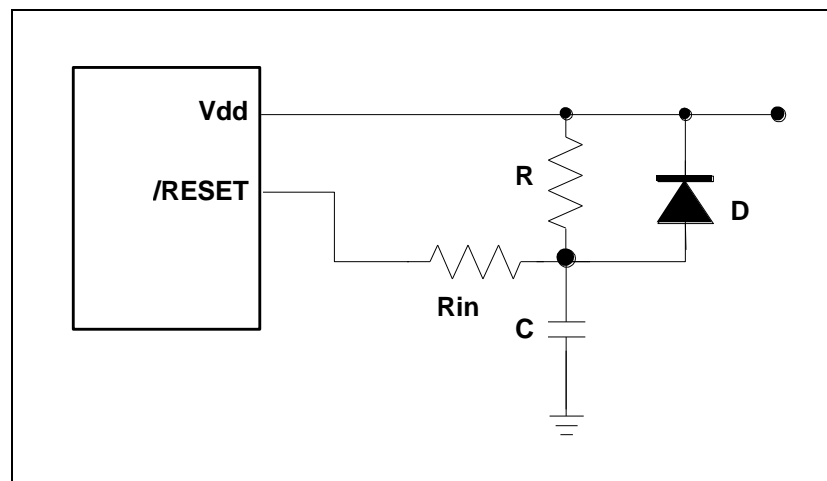

Figure 6-24 External Power-up Reset Circuit
The circuit shown in Figure 6-24 uses an external RC to generate a reset pulse. The pulse width (time constant) should be kept long enough for Vdd to reached minimum operation voltage. This circuit is used when the power supply has slow rise time. Because the current leakage from the /RESET pin is $\pm 5\mu\text{A}$, it is recommended that R should not be greater than 40K. In this way, the /RESET pin voltage is held below 0.2V. The diode (D) functions as a short circuit at the moment of power down.